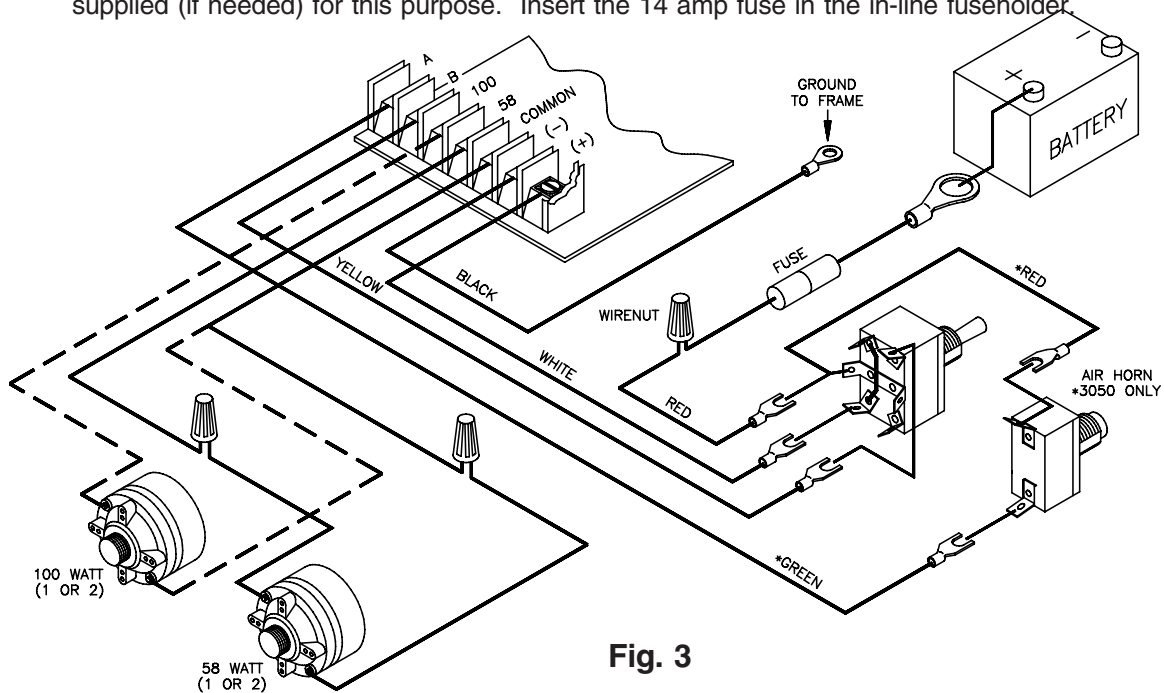

Fig. 3
Wire the speaker to Common and 58 (58 watt) or Common and 100 (100 watt) using the #18 "Zip Cord" supplied. Connect the "Zip Cord" to the speaker wires with (2) wirenuts. Determine which speaker you have prior to connection. Connection of a 58 watt speaker to the 100 watt terminal will destroy the speaker. Ground [earth or (-) terminal] the unit to the vehicle frame using the #16 gauge black wire and #8 ring terminal. Install #16 fork terminals on the red, white and yellow wires (one end only). For Model 3050, also install a terminal on the green wire in a similar manner. Install the red, yellow and white wires on the center off switch as shown in Fig 3. On Model 3050, also install the red jumper wire (between the switch and the push-button), and install the green wire on the push-button. After making sure that all connections are tight, install the switch (and push-button for Model 3050) in the mounting bracket. If mounting the Beacon switch in the siren switch bracket, install and wire it at this time. **Do Not Wire the Beacon and Siren on the Same Power Feed Line.** Use separate supply wires and fuses. Connect the white wire to the terminal marked (+) in the siren. Connect the yellow wire to terminal B at the siren. For Model 3050, connect the green wire to terminal A at the siren. Replace the siren cover. Be certain the wires are not caught between the cover and chassis. Replace the four cover screws. Place the center off toggle switch in the center position. Using a wirenut, connect one end of the in-line fuseholder to the red wire coming from the center off switch, as close to the power take off point as possible. Connect the other end of the in-line fuseholder to either the battery positive terminal or to the starter solenoid positive post. A 3/8" ring terminal is supplied (if needed) for this purpose. Insert the 14 amp fuse in the in-line fuseholder.